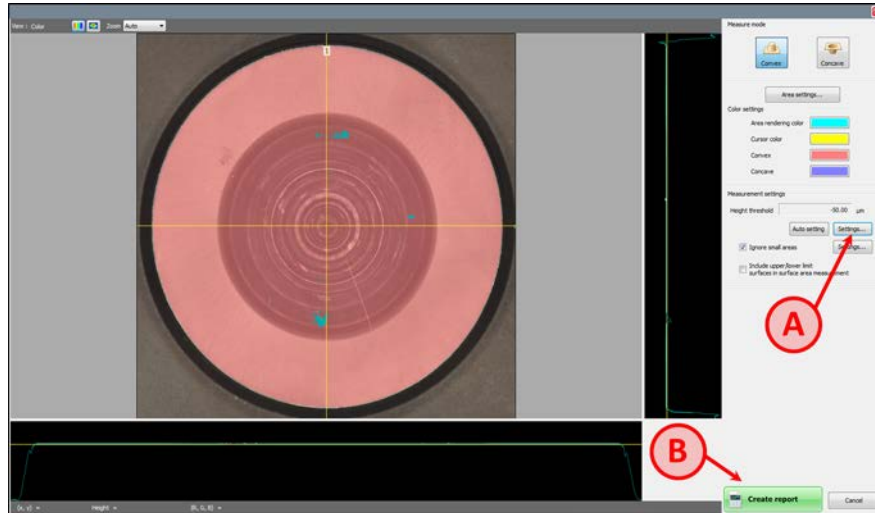

Figure 16 - Changing Height Threshold Setting
- 13.2. Click the **(A) Settings** button directly under the **Height Threshold** field in Figure 16.
- 13.4. Click the **(B) Create Report** button (Figure 16).